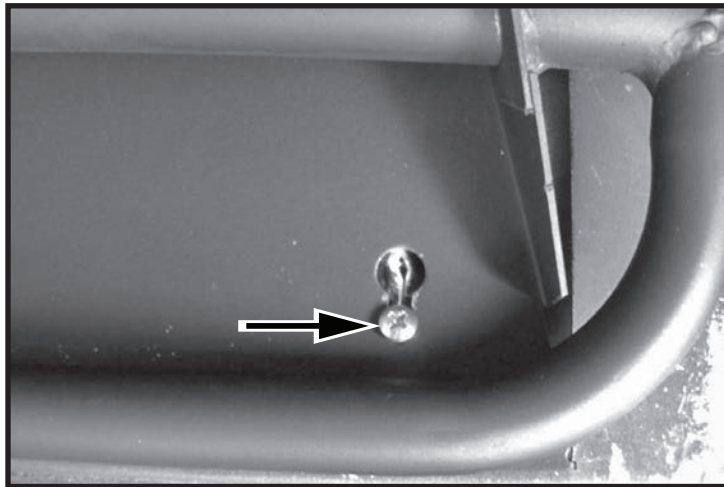

Figure 4: Burner assembly pushed back against right side screw.
2. Slide the burner back to engage the screws in the small part of the keyhole slot and tighten screws (Figure 4).